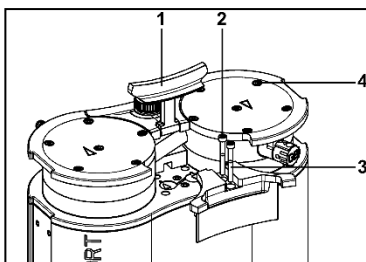

Fig. 5: Dismantle the cover
1. Place the handle (Fig. 5/1) in a vertical position.
2. Undo the screws (Fig. 5/2) of the cover (Fig. 5/3).
3. Remove the cover (Fig. 5/3).
4. Undo the head screws (Fig. 5/4).
1. Use a felt-tip pen to mark the pressure plate (2), head plate (3), intermediate plate (5) with a continuous line. This prevents the parts being assembled incorrectly later.
2. Undo the outer screws (Fig. 5/4) from the pump heads.
1. Press down all around the edge of the diaphragm (6). Press the diaphragm (6) down only on one pump head.
2. Place the intermediate plate (5) with valve plates/seals (4) on the holder in accordance with the felt-tip pen line.
3. Place the head plate (3) on the intermediate plate (5) in accordance with the felt-tip pen line.
4. Place the pressure plate (2) on the head plate in accordance with the felt-tip pen line.
5. Tighten the screws (Fig. 5/4) in a crosswise sequence (tightening torque: 5 Nm).
6. Screw (1) in the middle of the pressure plate.
7. Tighten screw (1) (tightening torque: 2 Nm).
9. Screw in the hose connections (10) hand-tight using the supplied tool.